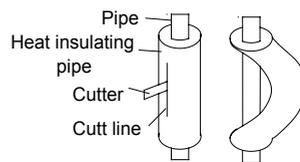

Fig.14
- (2). Do not bend the pipes in an angle more than  $90^\circ$ .
(4). When bending the pipe, do not bend it as is. The pipe will be collapsed. In this case, cut the heat insulating pipe with a sharp cutter as shown in Fig.14, and bend it after exposing the pipe. After bending the pipe as you want, be sure to put the heat insulating pipe back on the pipe, and secure it with tape.